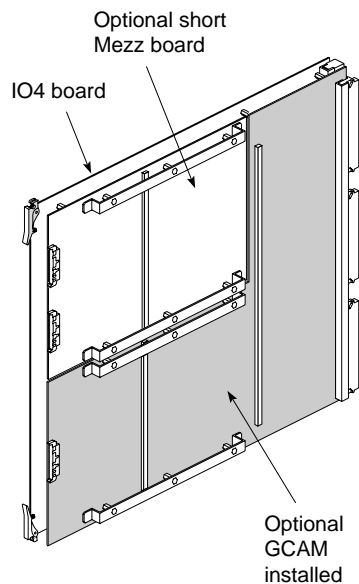

Figure 2-1 VCAM- and GCAM -Equipped IO4 Boards
4. Install the new GCAM-equipped IO4 (see Figure 2-1) in slot 5 to replace the VCAM-equipped IO4. Make sure the new IO4 is properly seated into the backplane connectors and that the ejector tabs have engaged the top and bottom card guides.